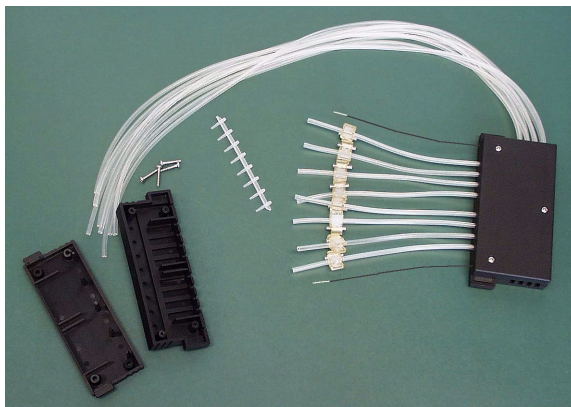
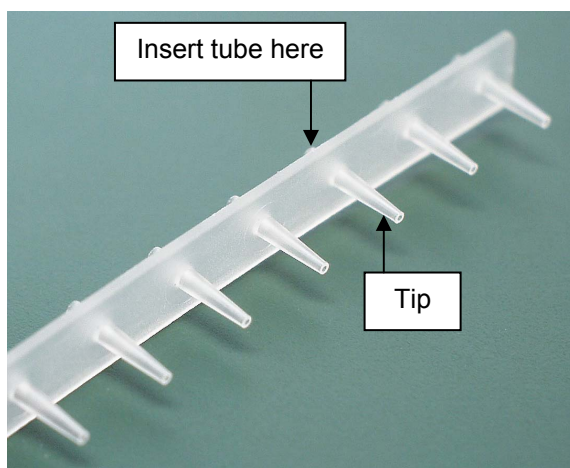

Fig. 7.13 Tip band removed
Fig. 7.14 New tip band
4. Replace the tip band (*Fig. 7.13*). The tips of the tip band must not be clogged in any way but be clean to function correctly (*Fig. 7.14*).